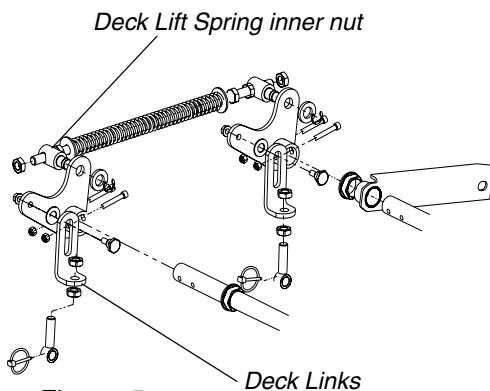

Figure 5
- c. If the dimension at the front of the mowing deck is 1/8"-1/4" lower than the dimension at the rear of the deck on each side of the mower, do not adjust. If not, you will need to adjust the Deck Lift Spring Assist (See Figure 5). You may also need to adjust the Deck Links (See Figure 5).